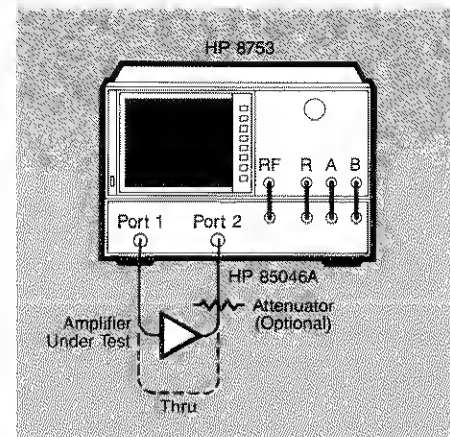

Figure 3. Basic setup for amplifier measurements using the HP 8753 with a S-parameter test set.
The following linear measurements can be made with a single connection to the S-parameter test set (see Figure 3). A full two-port calibration yields the most accurate results. Before calibration, set the measurement parameters to their desired values. It may be appropriate to step through some of the measurements before performing the calibration to ensure proper stimulus settings. Power levels at the various ports are of primary concern when measuring the linear transmission and reflection characteristics of amplifiers. If external attenuation is needed, calibrate with the attenuator in the system to remove its effects.
Transmission measurements can be made using the basic setup shown in Figure 3. An external attenuator at the amplifier output may be necessary to keep the power level at the B receiver input below the maximum level (0 dBm) for gain measurements. The test set attenuator, accessed through the HP 8753, affects only the source power path.
1. Connect the system as shown in Figure 3. Preset the HP 8753 to return the instrument to a known state of operation.